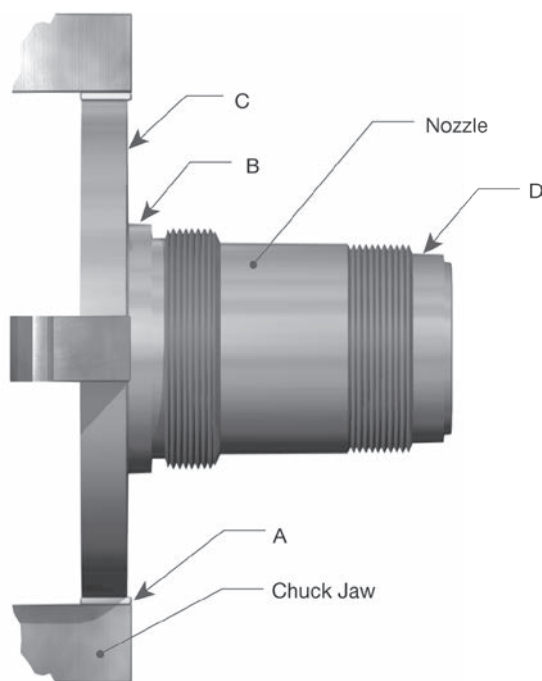

Figure 39: Nozzle Positioned in a Jaw
- a. Grip the nozzle in a four-jaw independent chuck (or collet, if appropriate), using a piece of soft material such as copper or fiber between the jaws and the nozzle as shown at A (Figure 39).
- b. True up the nozzle so that the surfaces marked B and C run true within .001" (0.03 mm) on indicator (Figure 39).